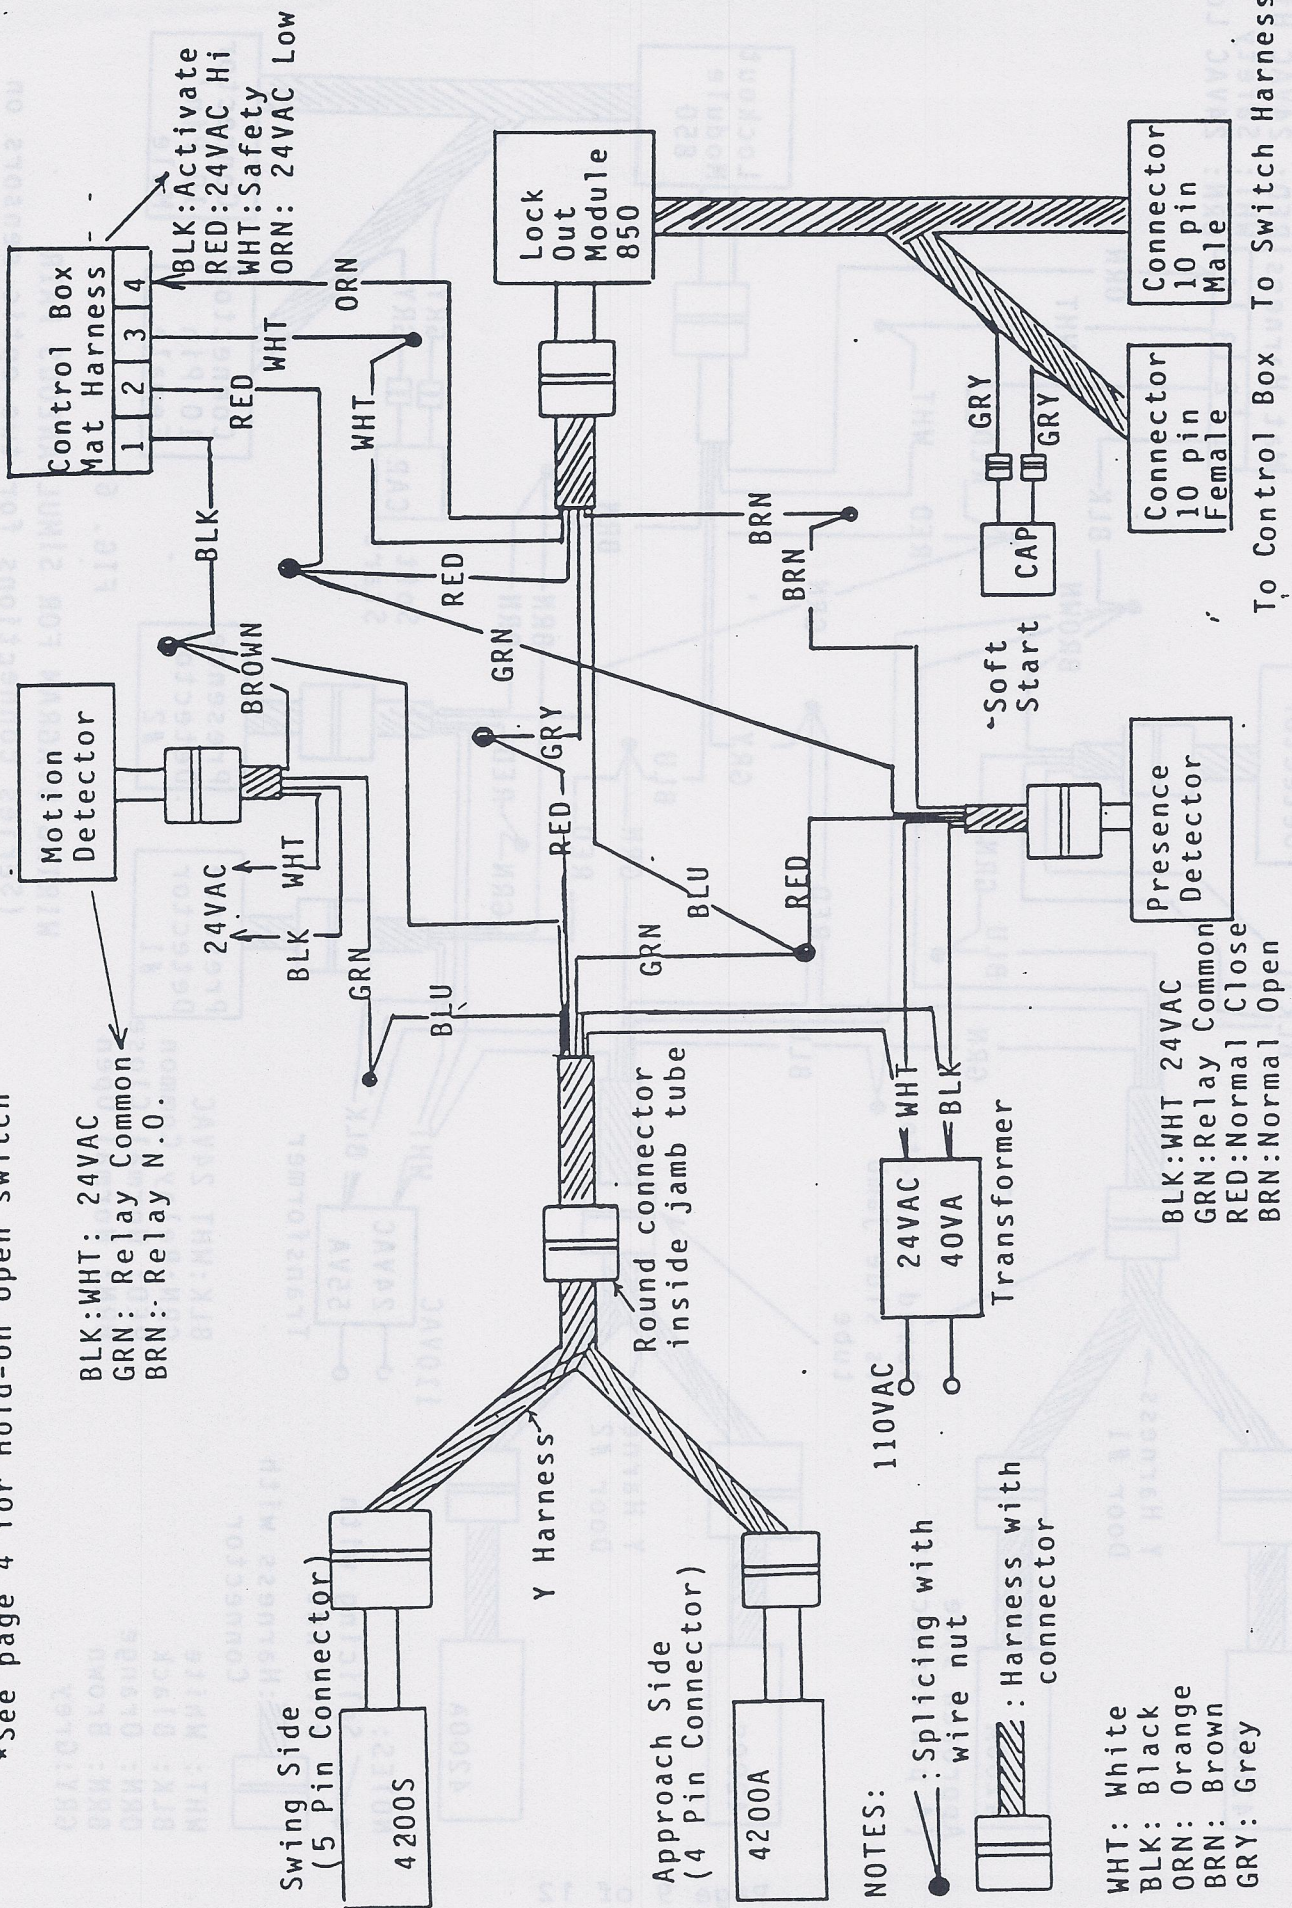

FIG: 5 WIRING DIAGRAM FOR SINGLE DOOR
E. Connect the six wires now in the header to the 24 volt transformer, the motion detector, the control box, the presence sensor and the lockout as shown in figure 5 and 6. Excess wire may be cut off.